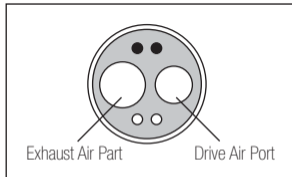

Fig. 7
- 3) Insert the Spray Nozzle into the Drive Air Port of the motor. Hold the motor and spray for approximately 2-3 seconds. Apply lubricant until it expels from the exhaust air part for at least 2 seconds. (Fig. 7)
- 2) Apply 1-2 drops of lubrication oil into the Drive Air Port shown in the Fig.7.